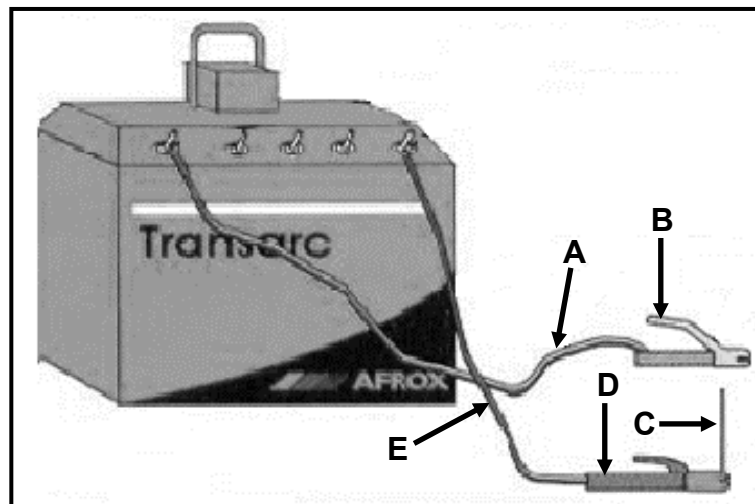

FIGURE 6.3
6.3 FIGURE 6.3 below shows an arc welding setup. Answer the questions that follow.